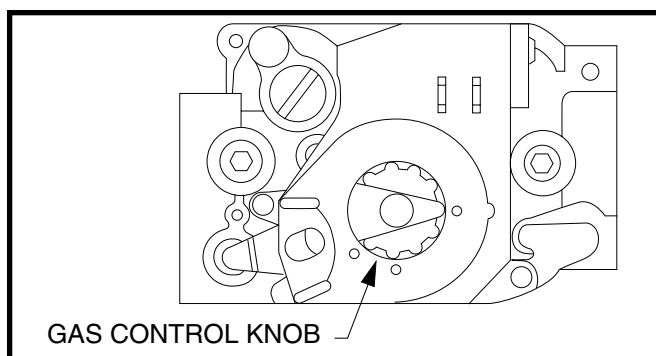

Figure 28. Direct Ignition Gas Valve - Honeywell
3. Remove the furnace door and turn off the gas valve. Push in and turn the gas control knob clockwise to **OFF**. See Figure 28 \(page 20\).
4. Wait ten (10) minutes to clear out any gas. If you smell gas, **STOP!** and follow the Safety Information. If you do not smell gas, proceed to step 5.
6. Turn the gas valve **ON**. Push in and turn gas control knob counter-clockwise to **ON** (Figure 28).
4. Turn gas control knob clockwise to **OFF** (Figure 28).
2. Verify the furnace On-Off switch is in the ON position. See Figure 27 \(page 15\) or Figure 28 \(page 20\).